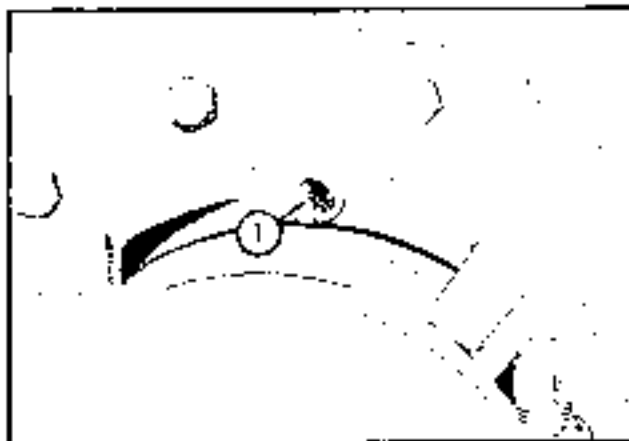

Fig. 1-26. Converter Mounting Bolt.
- c. Remove bolts holding converter drive plate to engine flywheel. Turn engine over to remove each bolt in turn, through opening and notch. See figure 1-26.